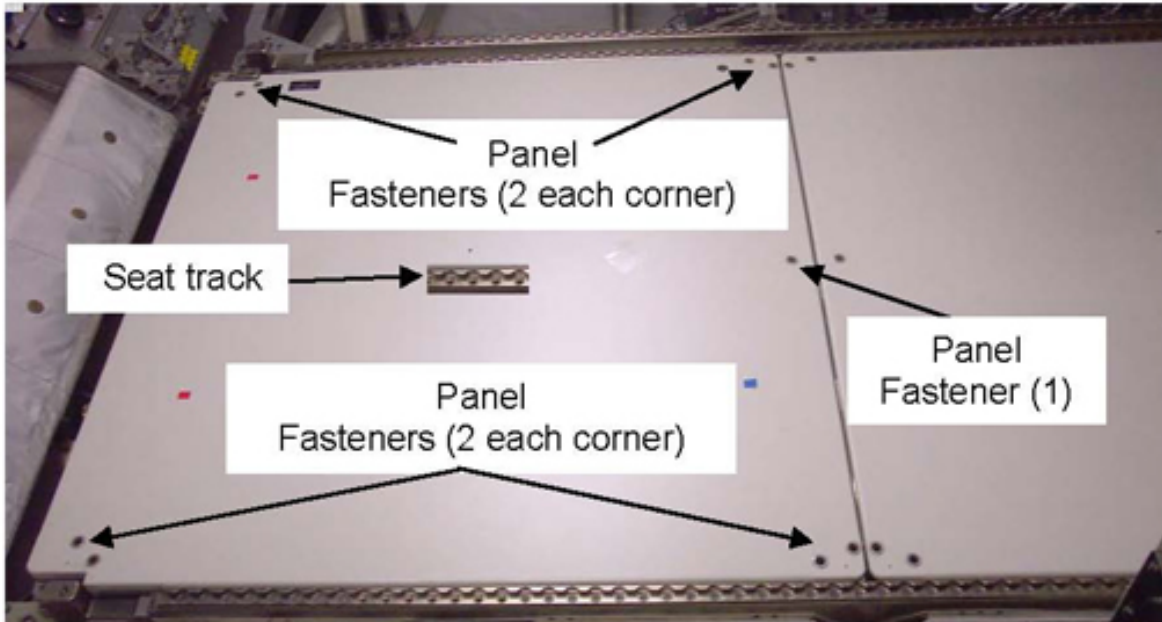

Figure 2. Deck Rack Floor Panels (Fastener Locations, Typical)
- 1.3 Loosen panel fasteners (9), any order (Ratchet Wrench 1/4"; 6" Extension, 1/4" Drive; T30 Torx Driver, 1/4" Drive). Fasteners are captive. Refer to Figure 2.